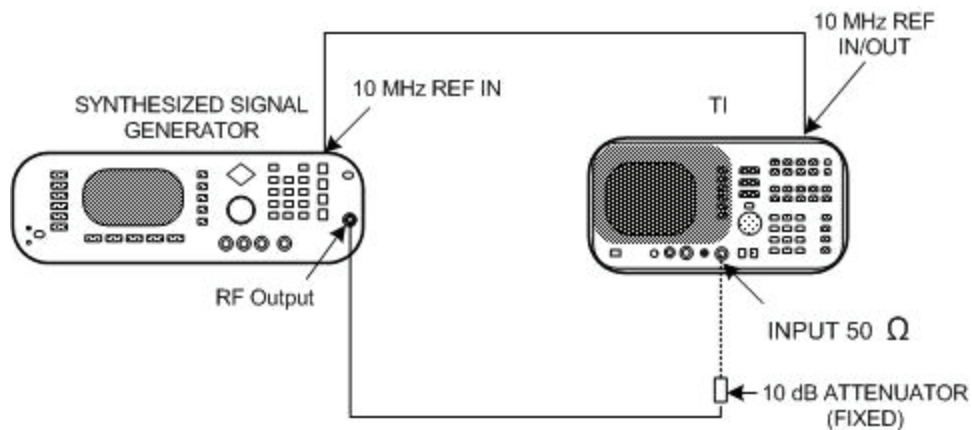

Figure 3. Input attenuator accuracy (18 GHz) - equipment setup.
- (25) Repeat (24) above for each remaining **IF GAIN CORRECTION** listed in table 6.
(26) Connect equipment as shown in figure 3.